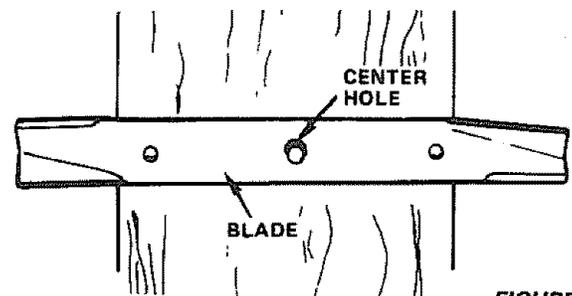

FIGURE 21
- To check blade balance, drive a nail into a beam or wall. Leave about one inch of the straight nail exposed. Place center hole of clean blade over the head of the nail (Fig. 21). NOTE: PLACE CENTER HOLE OF BLADE ON NAIL. IF BLADE IS PROPERLY BALANCED, BLADE SHOULD REMAIN IN POSITION SHOWN IN FIG. 21. IF EITHER END OF THE BLADE MOVES DOWNWARD, BLADE IS NOT BALANCED. SHARPEN THE HEAVY END UNTIL BLADE IS BALANCED.